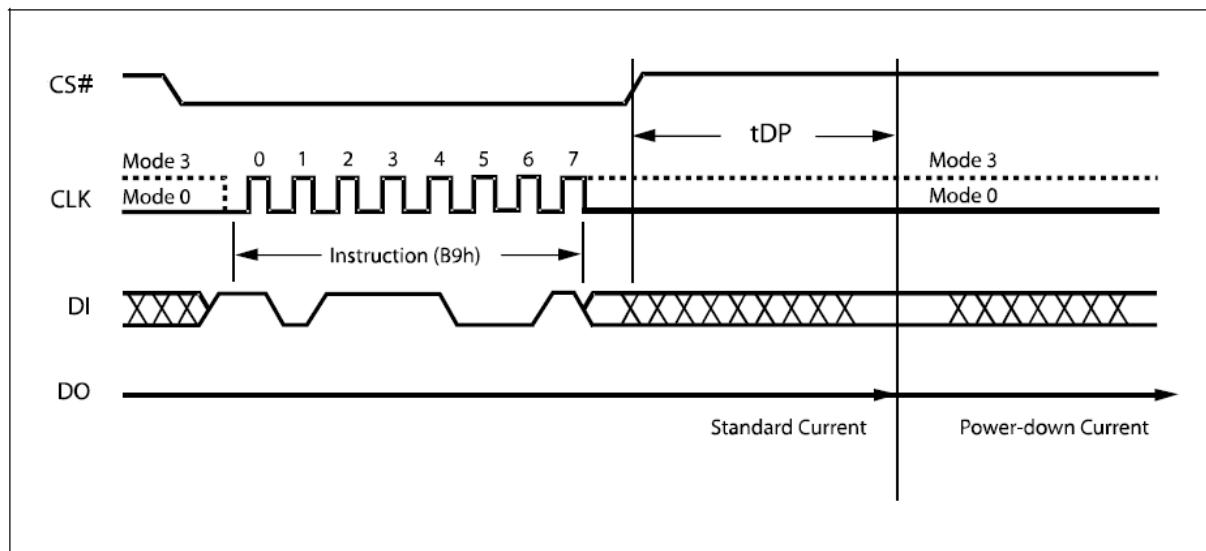

Figure 28. Deep Power-down Instruction Sequence Diagram
The instruction sequence is shown in Figure 28. Chip Select (CS#) must be driven High after the eighth bit of the instruction code has been latched in, otherwise the Deep Power-down (DP) instruction is not executed. As soon as Chip Select (CS#) is driven High, it requires a delay of t_{DP} before the supply current is reduced to I_{CC2} and the Deep Power-down mode is entered.